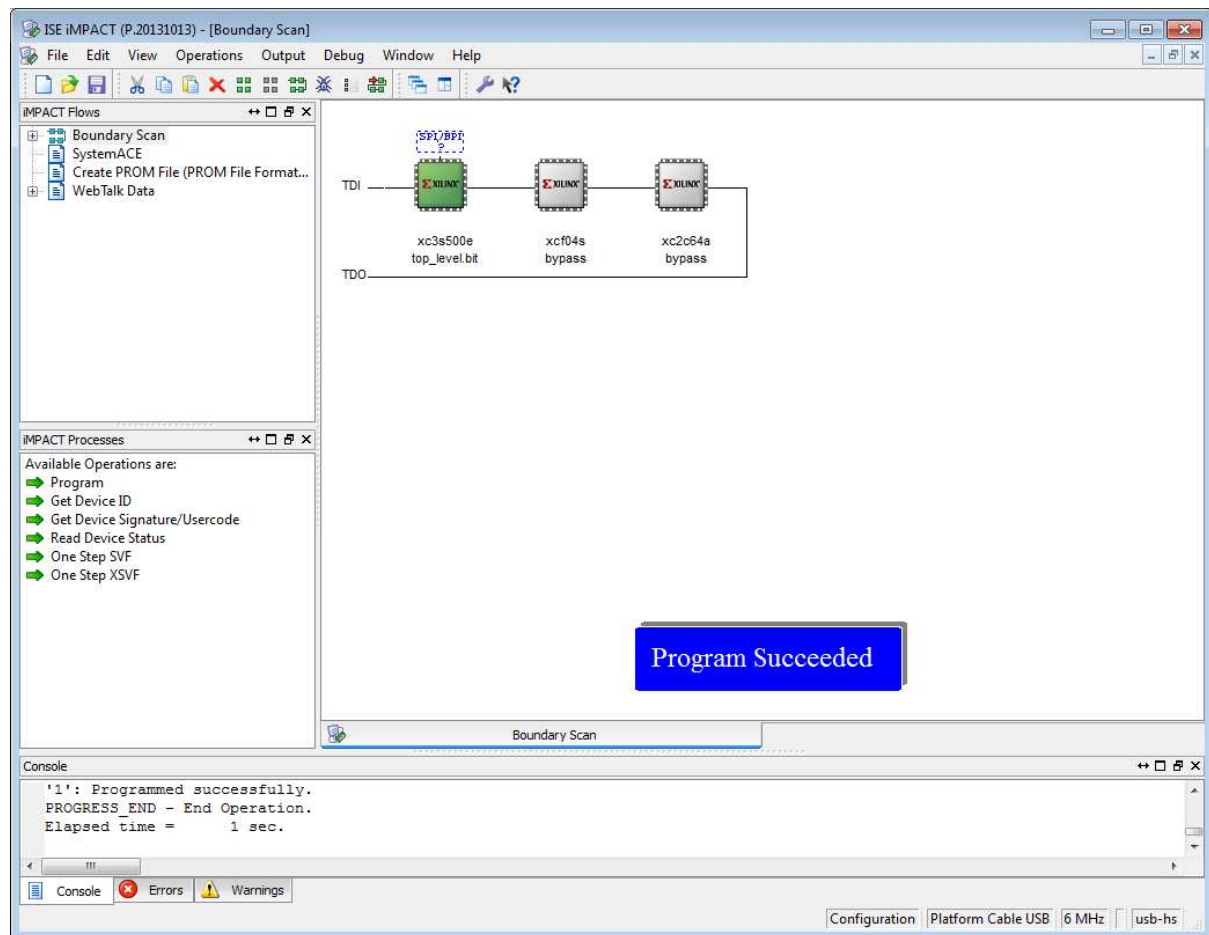

Figure 3.40: iMPACT window, after the program has been successfully downloaded to the Spartan-3E board.
14. The program should now be downloaded to the Spartan-3E board. After the download is complete, the message “Program Succeeded” will appear in a blue box (Figure 3.40).